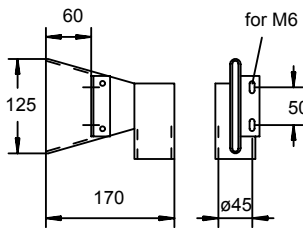

Figure 5
- Figures 5 and 6 show standard designs. Because the equipment/drives, mounting environment and the local conditions may be quite different from case to case, we offer other types of suction nozzles. Should you experience difficulties with standard-nozzles, please consult the factory and provide details such as: number of poles of the conductor rail; sketch containing the available space and the types of fastening required